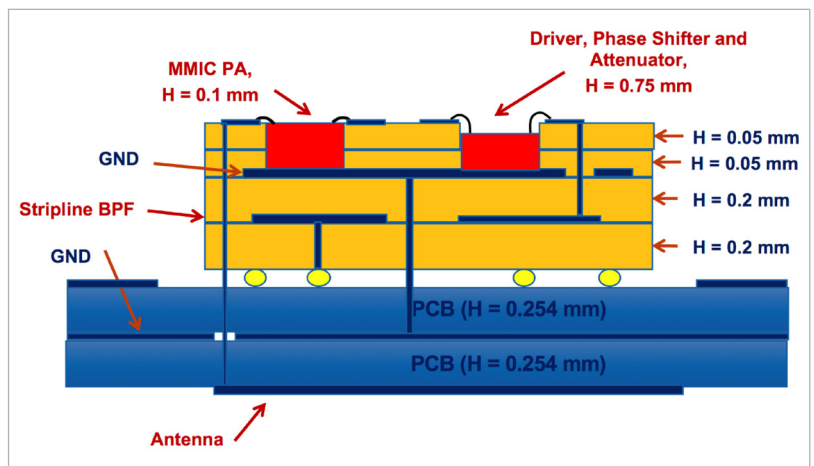

Figure 2: Simplified STACKUP for the module.
MMIC for the power amplifier (PA), a PA driver, a phase shifter, an attenuator, vendor or internally-designed components, transitions such as bond wires, microstrips, and striplines (MLIN/SLIN) (Figure 2), and an antenna.